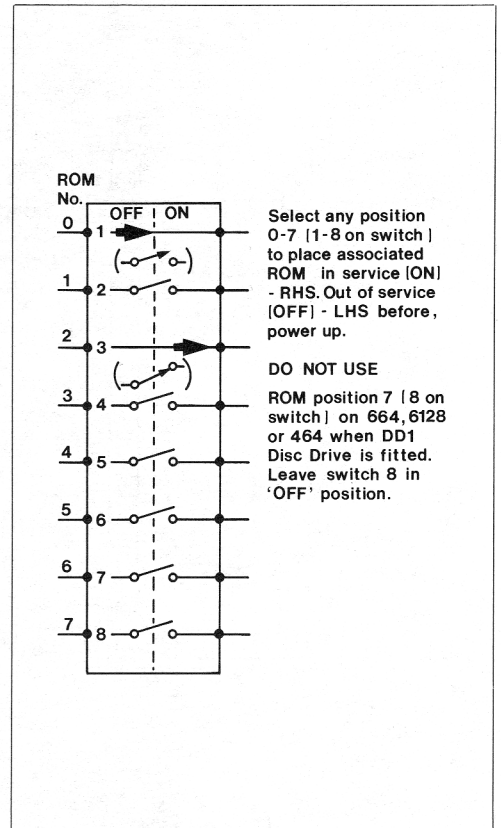

Figure 5. DIL switch
lines help to realise this critical timing period under control of the Amstrad U.L.A. chip. Condition (A) is met during 'turn on' or system reset (EMS), where part of the initialisation routine addresses the I/O port at &DF00. At this port, data values 0 to 7 are written to IC2, which is a three to eight, latching decoder IC. IC1d and IC1c gate the IORQ, WR and A13 lines, and when ROMEN is active (low), a single data code or 'ROM position address' is presented to the one-of-eight decoder IC2. If an appropriate selection is made, then the associated ROM 0-7 (Figure 5) is selected, and the internal BASIC ROM is disabled via IC3 and D1.